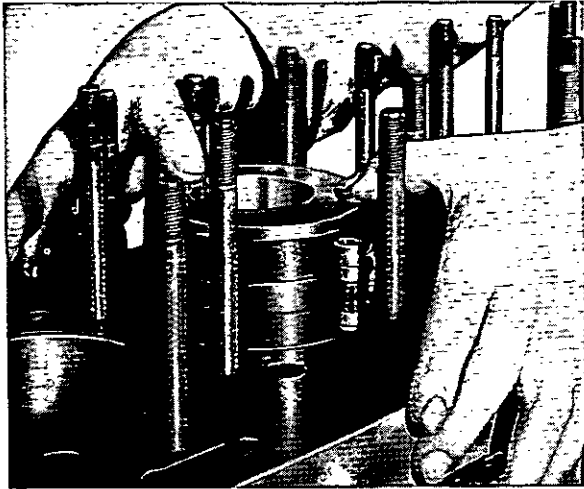

Fig. F.6.
2. Using a ring guide, insert each assembly into the top of the respective cylinder bore (Fig. F.6). The piston and rod number must relate to the cylinder into which it is being fitted and the rod identification number must be opposite to the camshaft. The word "Front" marked on the piston crown must be towards the front of the engine.